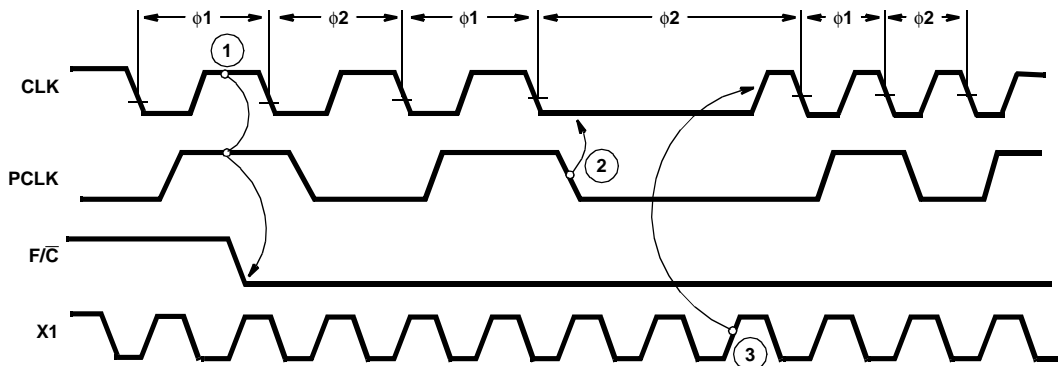

FIGURE 1A. F/\overline{C} SWITCHED FROM HIGH (USING EFI INPUT) TO LOW (USING THE CRYSTAL INPUT X1)
- A) F/\overline{C} switched from high (using EFI input) to low (using the crystal input X1 - see Figure 1A).